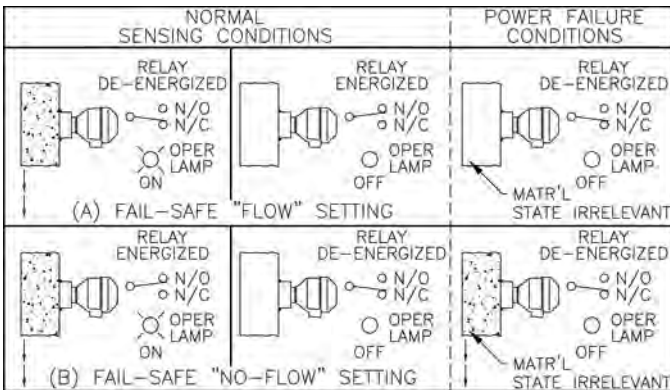

Figure 13
**3) Power Supply/Conditioner Outputs** - The power supply/conditioner provides DPDT (two Form C) dry contacts for customer connection. They are capable of switching high voltage/high current loads as listed in the specifications. The terminal block designations represent the condition of the relay contacts as if all power was off (See Figure 13).
**Fail-safe** (See Figure 13) Selection of the fail-safe mode will permit the output contacts to be signaled in a manner which assures proper control of loads in the event of SFD-2 sensor/power failure. Depending on which condition is most critical to signal (flow or no-flow), the selection can be made by positioning the slide switch to the desired state.